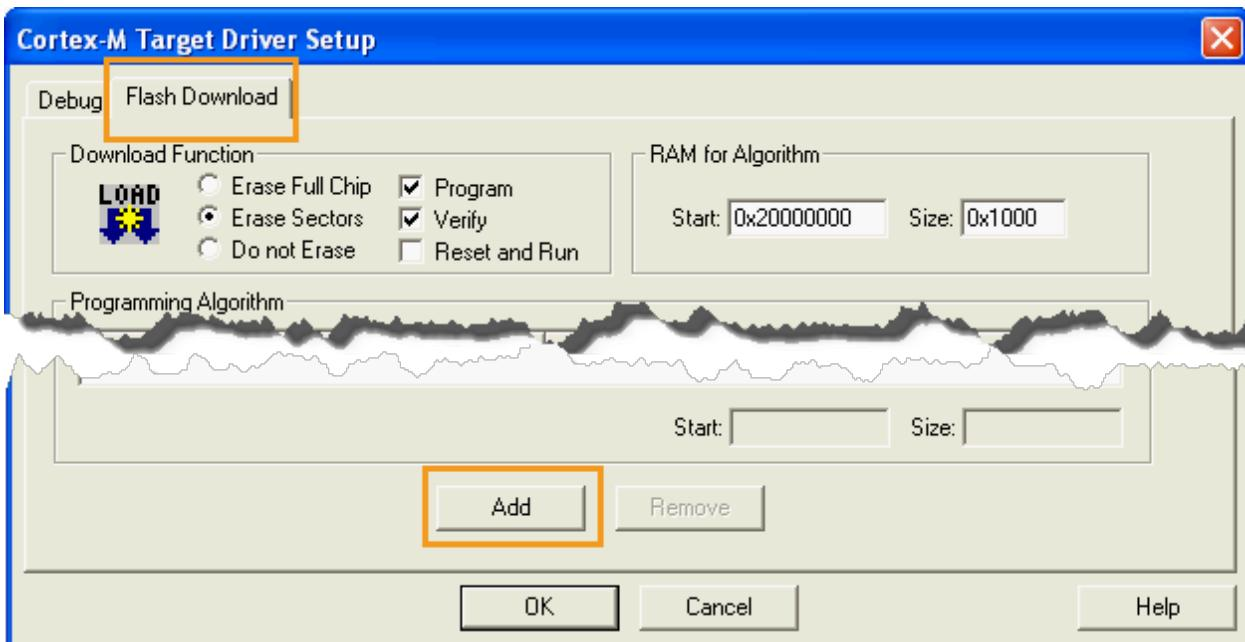

Figure 54. Select device flash programming algorithm
- 6) Click **Settings** to switch to **Cortex-M Target Driver Setup** and select **Flash Download** to add device flash programming algorithm (see Figure 54).